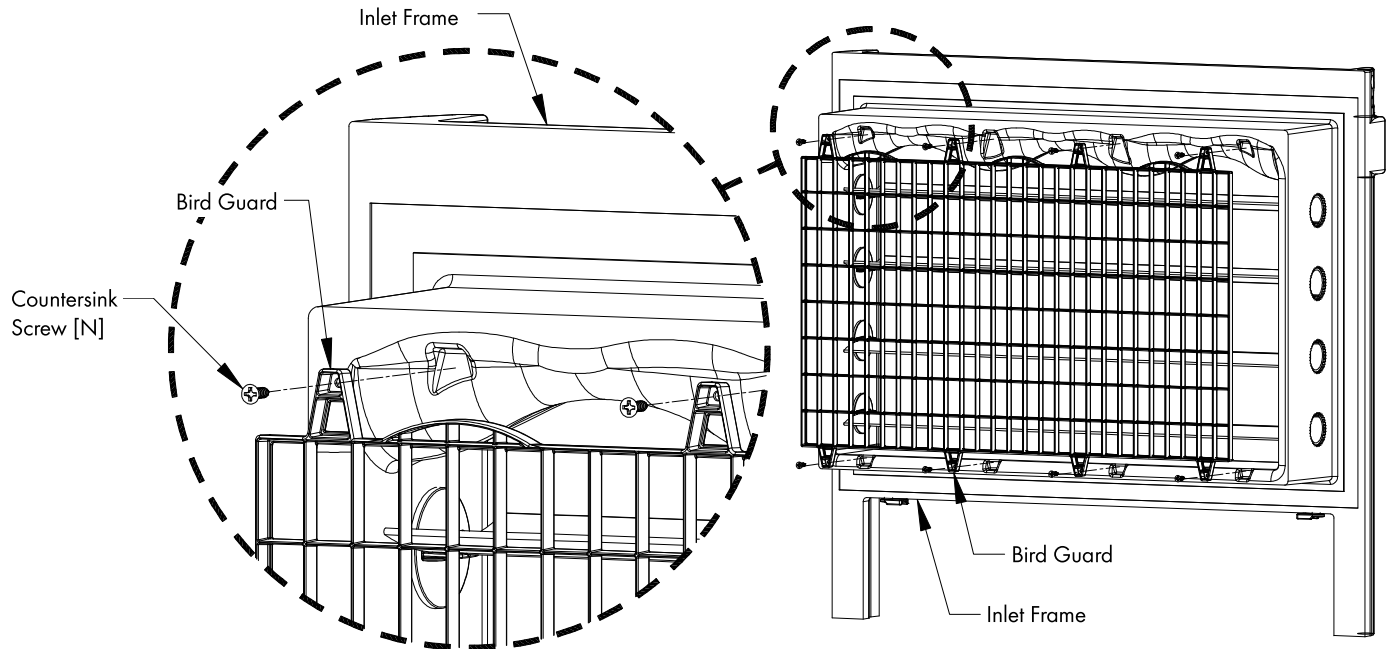

Figure 6
Attach Bird Guard to rear side of Inlet Frame using (8) Countersink Screw [N]. See Figures 6.